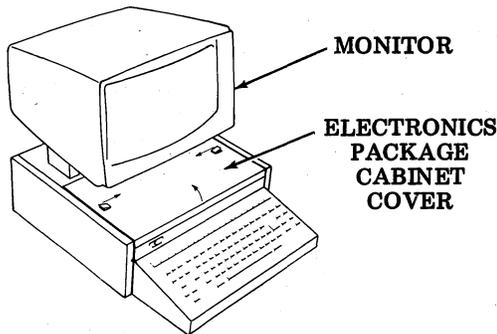

Fig. 15—Electronics Package Access
4.26 Open the cover of the electronics package cabinet by sliding the two latches located on top of the cover toward the center and lifting it up to its stop (Fig. 15).